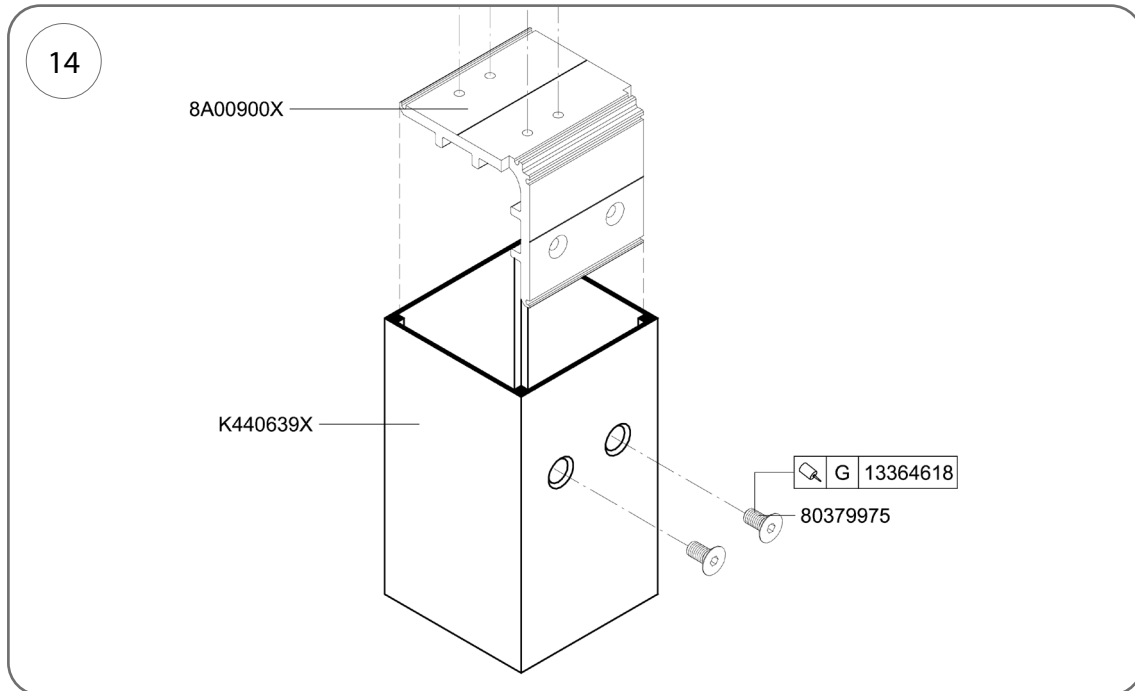

Fig. 14
1. Attach the column connector, cat. no. 8A00900X, as shown in Fig. 14.